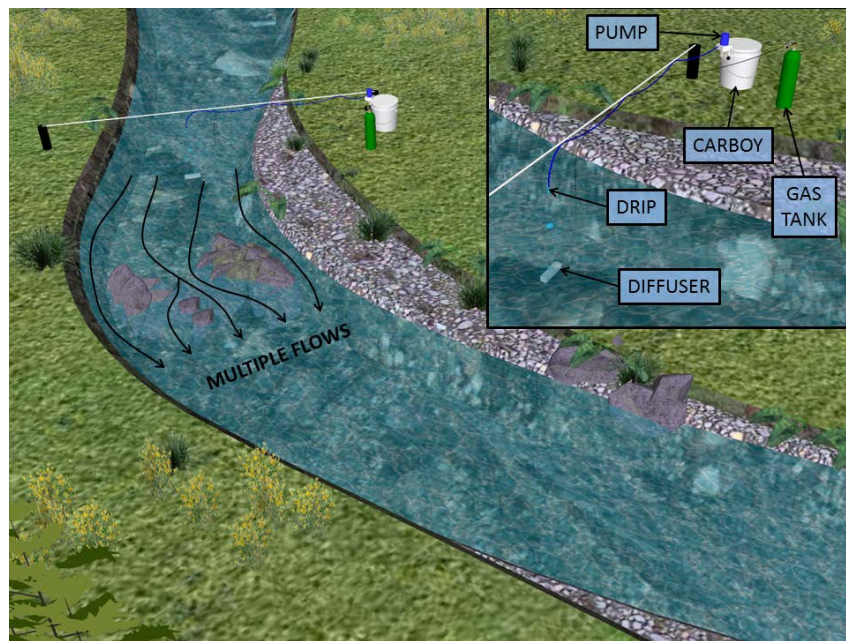

Figure 5. Field setup of the injection site with conservative tracer and inert gas
2. Set up the bucket/carboy, tubing, battery, and pump on a level surface at the injection site (Figure 5). If a level surface on the bank is not adequate, place pump set-up on a bridge or plank laid across the stream.
5.  Pump Set-up: The end of the tubing should be placed a few inches above the water surface. **DO NOT** put the tubing in the stream because it will change the pump rate. Attach the tubing to something stable, such as a piece of rebar pounded into the streambed or a tree above the stream. Make sure to **INJECT** (i.e., Drip) INTO THE THALWEG so the solution will mix as quickly as possible with the stream water (Figure 5).
- 4) Make sure diffuser remains underwater and is at the same location in the stream as the conservative tracer injection (Figure 5).